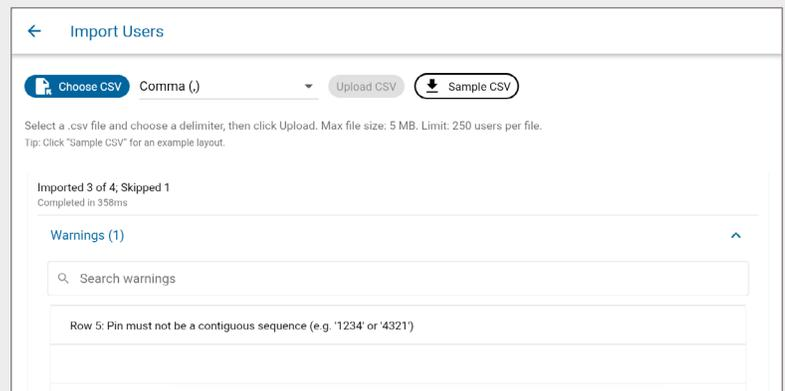

Fig. 216 – Import results
- 🔑 When the import is finished, you will see the number of users that were successfully imported and if any users were skipped (as shown in Fig. 216). Additionally, you can review warnings about issues in the CSV file that may have prevented some users from being imported by expanding the **Warnings** list.